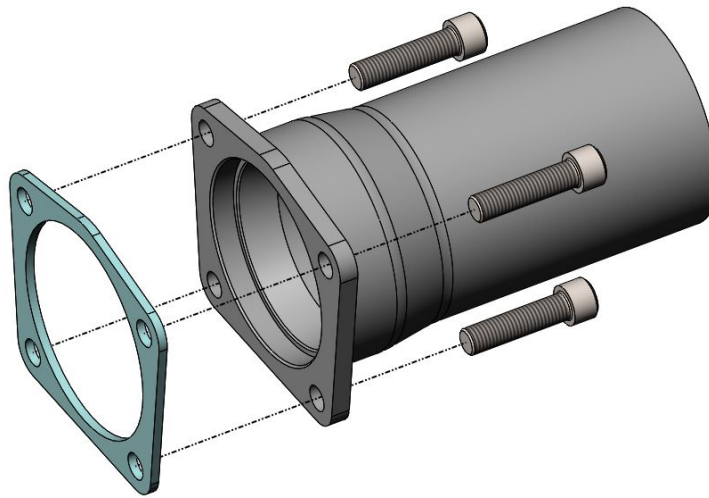

Figure 2 – Bolts Installed in the Flange
6. Using the provided 3/8"-24 x 1-1/2" Socket Head Cap Screws, install the bolts into the axle housing as seen below in Figure 2. Once positioned, position the spacer flange over the four bolts against the axle flange. Refer to Figure 2 below for reference.